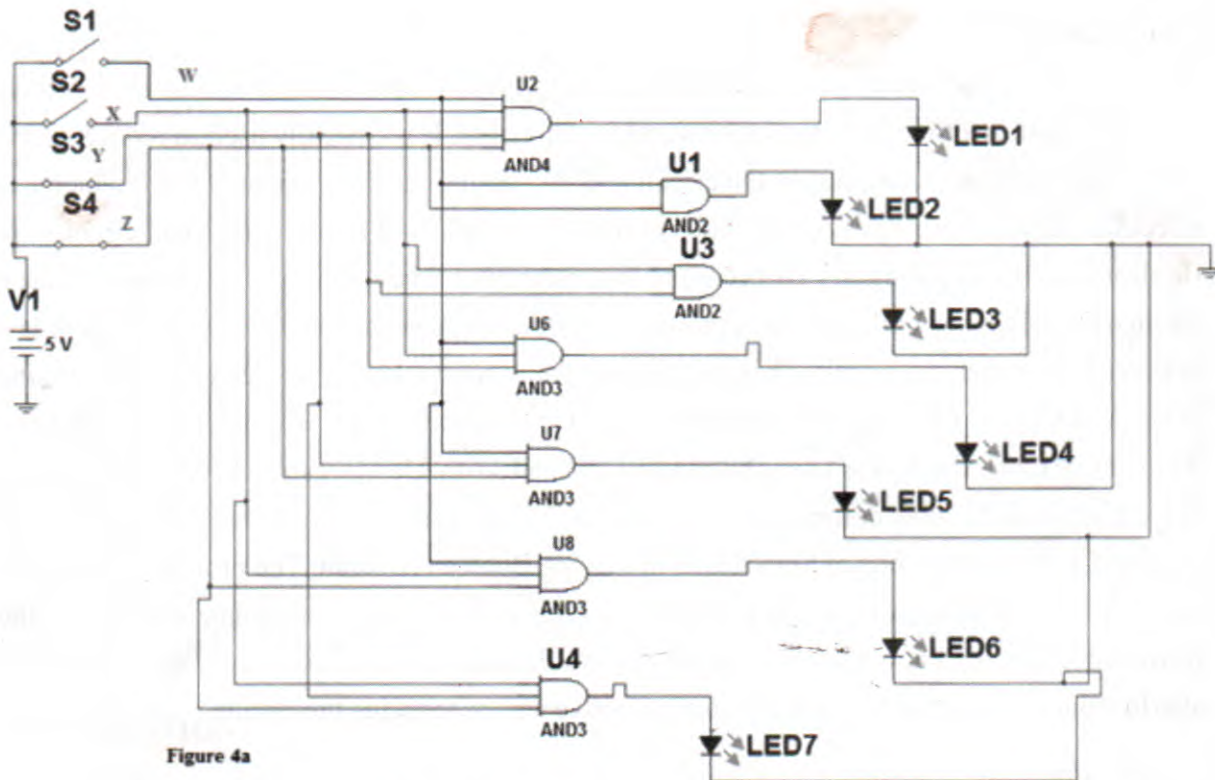
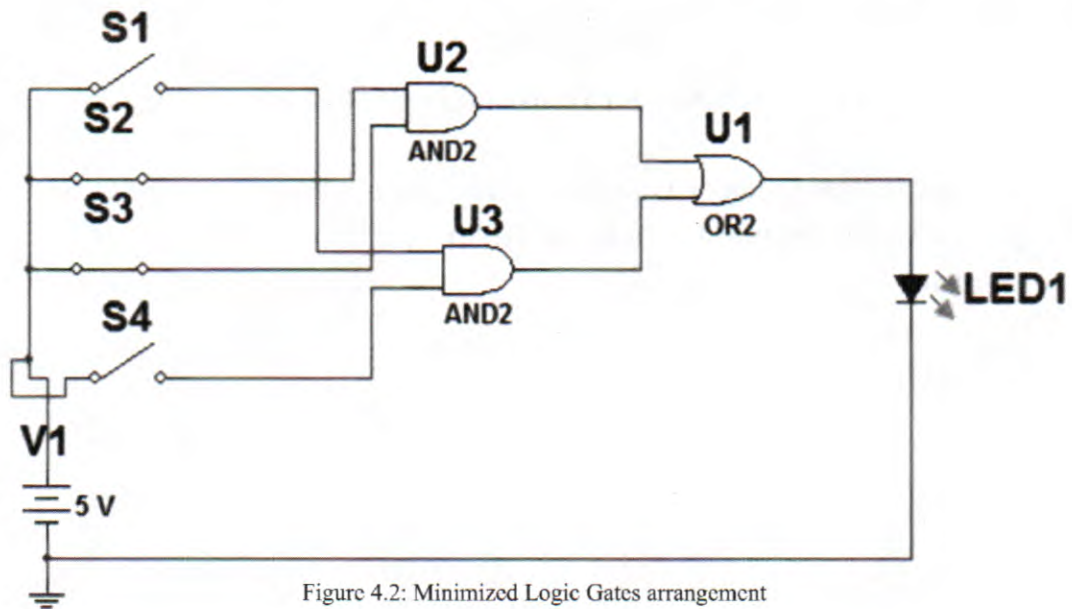

Figure 4.1: Complex Logic Gates arrangement
Figure 4.2: Minimized Logic Gates arrangement
1. Consider Figure 4.1 with four switches namely WXYZ. LED is connected to the output which is to be powered on when the following conditions are satisfied. You only have an output when these three conditions are satisfied:
2. Draw the truth table of circuit shown in Figure 4.1
5. Circuit in Figure 4.2 is a minimized logical circuit of Figure 4.1. Connect both circuits using any simulation software and also implement this on your project board. State your observation.